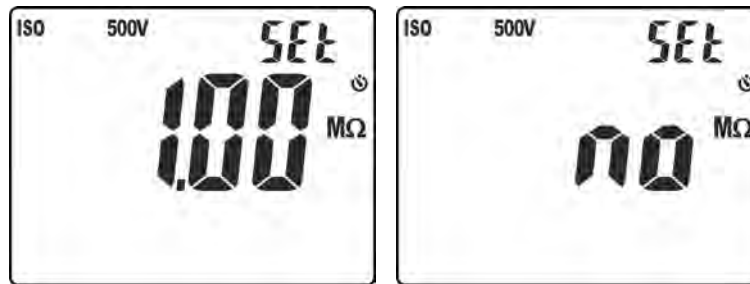

Fig. 16: Setting the limit threshold for insulation measurement
5. Press keys ∇/OFF or $\blacktriangle/\text{ZERO}$ to select the value among the options: **0.10M Ω** , **0.230M Ω** , **0.50M Ω** , **1.00M Ω** , **100M Ω** , **no**. Option “no” indicates that no threshold was set (see Fig. 16).
4. Press and hold key **VTEST/LIM** (>2s) to set the **minimum** limit threshold for measurement. The symbol “Set” flashes on the display. Press keys **▼/⚡** or **▲/ZERO** to select the value among the options: **0.10MΩ, 0.230MΩ, 0.50MΩ, 1.00MΩ, 100MΩ, no**. Option “no” indicates that no threshold was set (see Fig. 16).
4. Press and hold key **VTEST/LIM** (>2s) to set the **minimum** limit threshold for measurement. The symbol “Set” flashes on the display. Press keys **▼/☒** or **▲/ZERO** to select the value among the options: **0.10MΩ, 0.230MΩ, 0.50MΩ, 1.00MΩ, 100MΩ, no**. Option “no” indicates that no threshold was set (see Fig. 16).